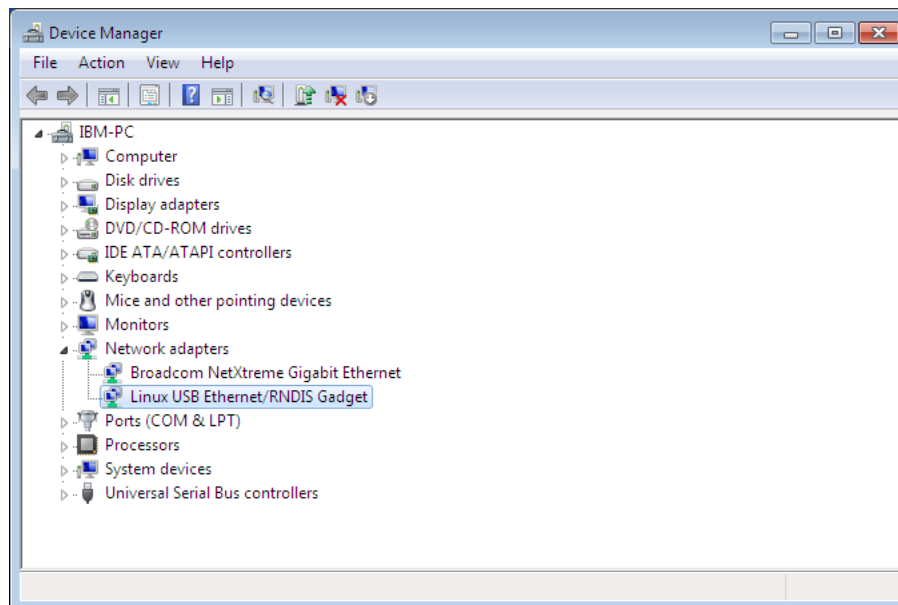

Figure 22. Device Manager Window – Verify Device Installation
- Verify that **Linux USB Ethernet/RNDIS Gadget** is listed under Network adapters (see Figure 22).